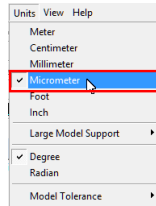

Figure 5: Selection of unit in DesignModeler.
- Select the appropriate unit of length, in this case  $\mu\text{m}$  (micrometer), as in figure 5.